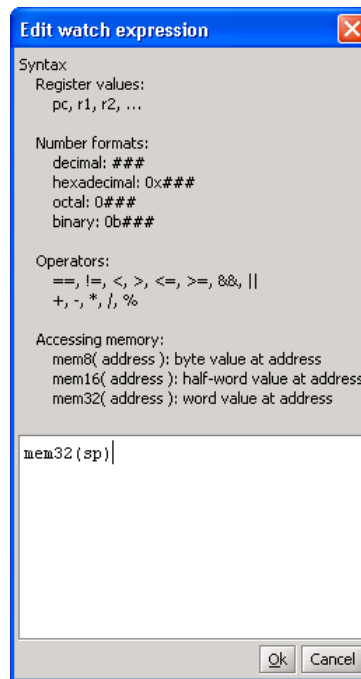

Figure 41. The Edit Watch Expression window.
3. The *Edit Watch Expression* window will appear, as shown in Figure 41. The desired watch expression can then be entered, using the syntax indicated in the window. In the figure, the expression `mem32(sp)` is entered, which will display the value of the data word at the current stack pointer address.